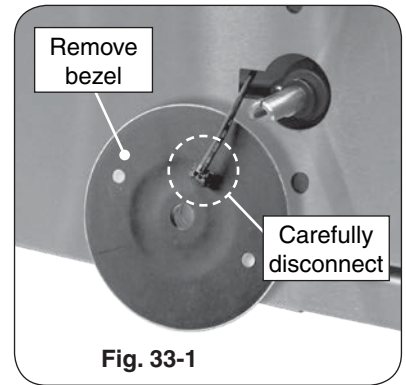

Fig. 33-1
2. Disconnect the main wire harness connections (A), the left light connection (B), the right light connection (C), and the igniter wires (D). It is recommended to temporarily label the wires for reference when reconnecting. See Fig. 33-1. When disconnecting, be sure to pull from the connectors, and not the wires.